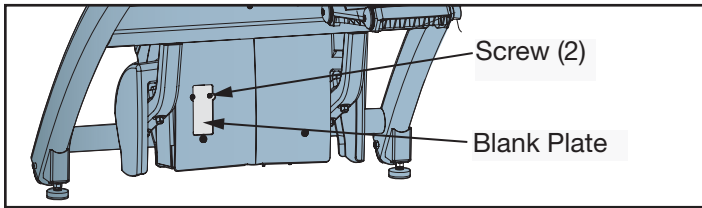

Figure 4
- A. Using a Phillips head screwdriver, remove the two screws securing the blank plate in place. See Figure 4.
- B. Using a Phillips head screwdriver, install the two screws (removed in step 7A) securing the power supply. See Figure 4.